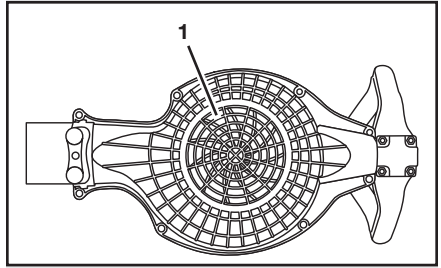

Fig. 8
1. Turn to blower up-side down (Fig. 8).
2. Carefully brush any debris off the air intake screen (1).